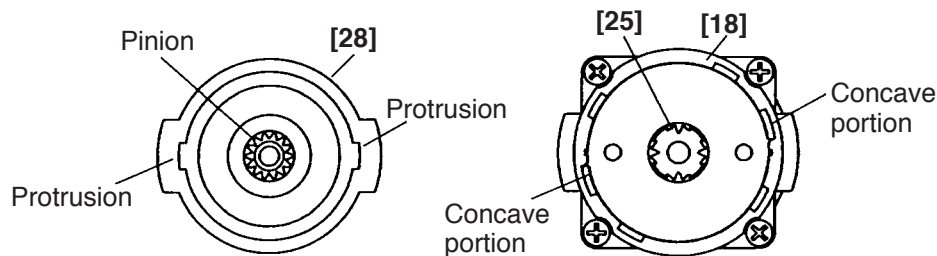

Fig. 10
(6) Reassembly of the drive unit
(a) Fit the protrusion of the Motor Spacer [28] in the concave portion of the Rear Case [18] engaging the pinion of the Armature [29] with Planet Gear (A) Set (4 pcs.) [25]. Turn it fully clockwise viewing from the rear of the Armature [29] (see Fig. 10).